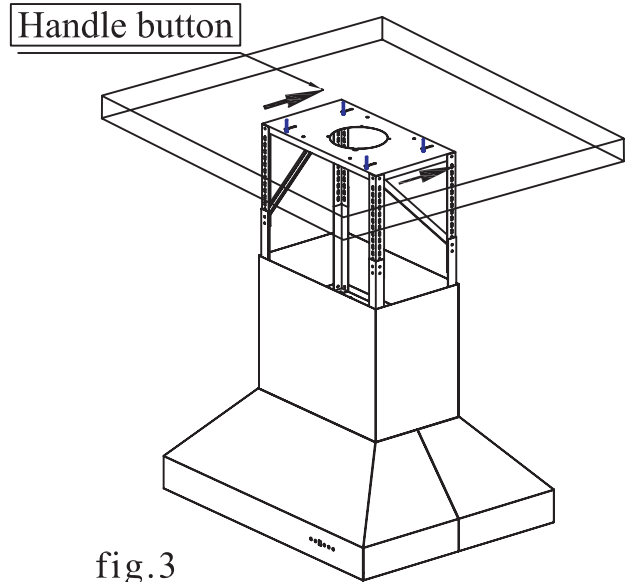

fig.3
**Step three:** Take the chimney sections and separate slightly to reveal the vent slots. Next take the hood and slide the top mounting bracket over the mounting screws and slide back into position. fig 3. Make your electrical and duct connections at this point using 8 inch rigid ducting wherever possible.